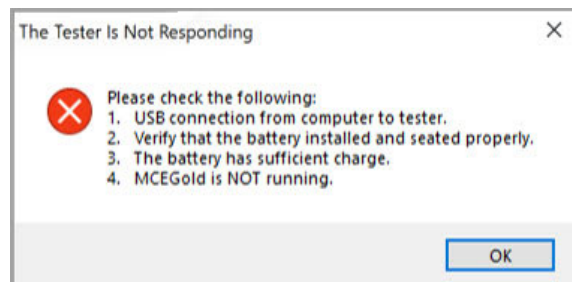

Figure 7
**NOTE:** Failure to connect the computer to the tester, install the battery, or to close MCEGold will result in the error message seen in Figure 7. Perform the activities listed and **click** OK. Return to Step 5.